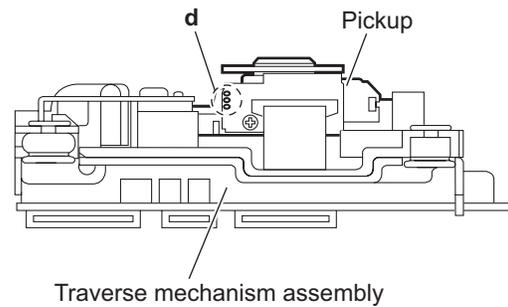

Fig.4
### 3.2.4 Removing the DVD module board (See Figs.4 and 5)
- (1) From the side of the traverse mechanism assembly, solder the short land sections **d** on the pickup. (See Fig.4.)
- Solder the short land sections **d** on the pickup before disconnecting the card wire from the connector **CN101** on the DVD module board. If the card wire is disconnected without attaching solder, the pickup may be destroyed by static electricity. (See Figs.4 and 5.)
- When attaching the DVD module board, be sure to remove solders from the short land sections **d** after connecting the card wire to the connector **CN101** on the DVD module board. (See Figs.4 and 5.)
### 3.2.5 Removing the pickup (See Figs.4,6 to 8)
- Solder the short land sections **d** on the pickup before disconnecting the card wire from the connector on the pickup. If the card wire is disconnected without attaching solder, the pickup may be destroyed by static electricity. (See Figs.4 and 6.)
- When attaching the pickup, be sure to remove solders from the short land sections **d** after connecting the card wire to the connector on the pickup. (See Figs.4 and 6.)
### 3.2.6 Attaching the pickup (See Figs.4,6 to 9)